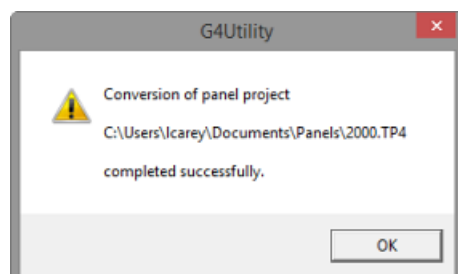

FIG. 436 G4Utility - Conversion completed successfully
7. The program will indicate when finished - click **OK** to close the notification dialog (FIG. 436):